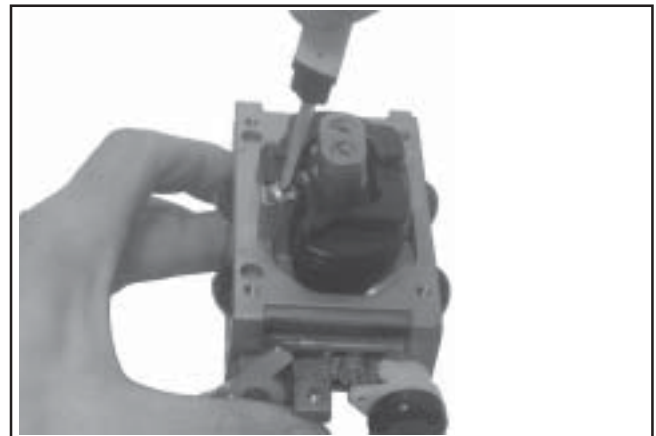

Figure 5-46. Installing Float Assembly.
6. Install the float and inlet needle down into the seat and carburetor body. Install the new pivot pin through the float hinge and secure with the new retaining screw. See Figure 5-46.